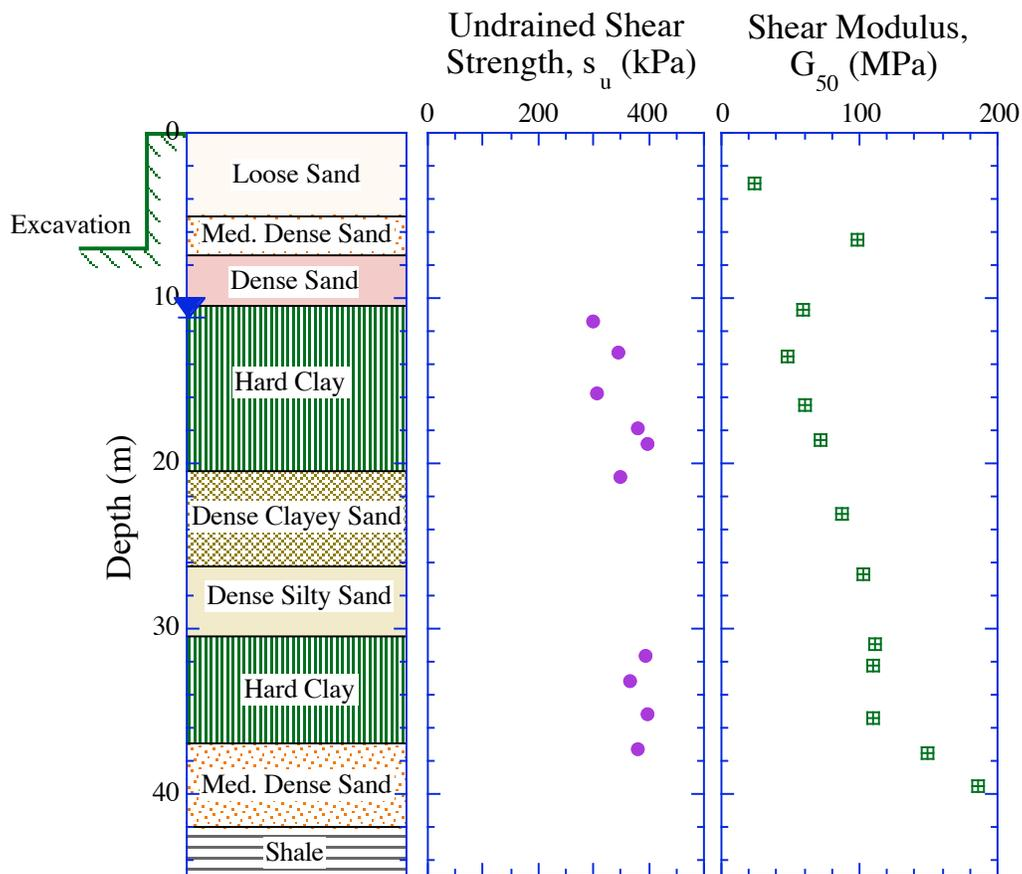

Figure 2. Soil profile for building foundation
- a) Compute the elastic settlement for the raft foundation based on properties given in Figure 2. [5 points]